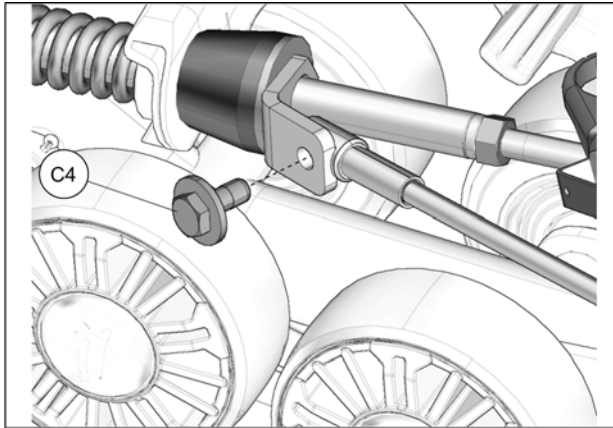

Fig. 21
14. Reverse steering wheel a little to be able to bolt support plate and cable together. Tighten provided bolt (C4) to 35 N•m [24 lb•ft]. See Fig. 21. Repeat steps on right side.